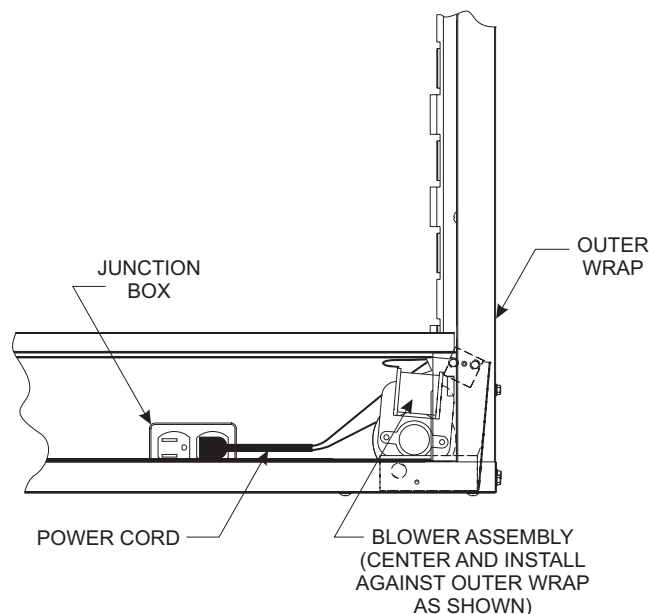

Figure 23
**NOTICE:** On peninsula models, the blower must be installed at the end which has the brick panel installed. Position blower assembly so that you align the notch on back of blower assembly with the center screw on side/end panel, then push the blower assembly against firebox outer panel. The blower wheel must be centered with the side/end wall of the firebox. The magnets on the back and bottom of blower assembly will sufficiently hold blower assembly in place. **See Figure 23.**
8. To complete the installation, plug the power cord into the junction box receptacle previously installed in the bottom of the fireplace. **See Figure 23.**